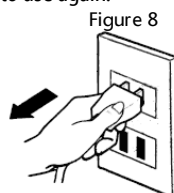

Figure 8
6. When cooking is complete, tap the **POWER** button to shut down and remove the Power cord (6) from the electrical outlet. (See Figure 8)